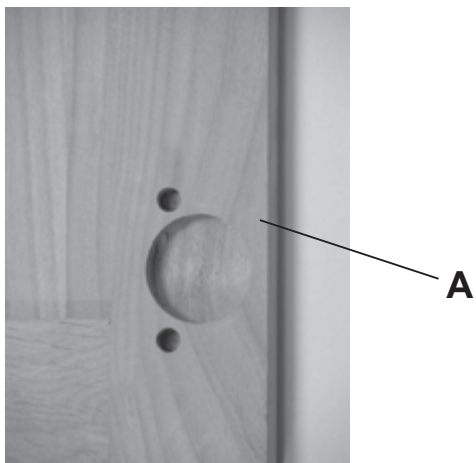

Fig. 4
4. Place the other two Doors (A) face down on a clean, protected surface. There are predrilled holes in the doors as shown in Figure 4. This is where you will be inserting the hinge portion of the assembly. Insert the Vertical Divider Hinge (G) assembly that has the plastic knobs into the predrilled holes in the bottoms and the tops of the Doors (A). See Figures 4 and 4a. **You must place both Vertical Divider Hinges (G) into the Doors before attaching the doors to the bookcase.**